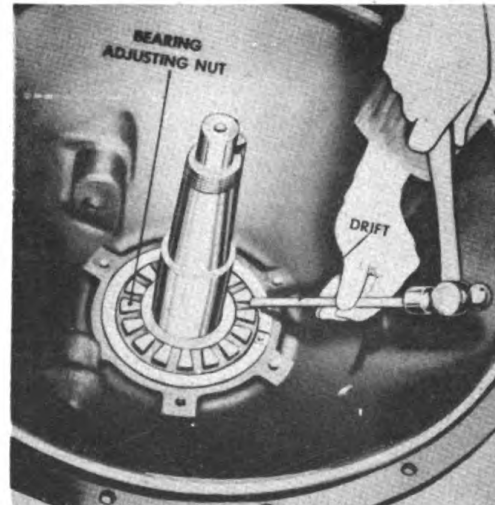

Figure 308. Removing Bearing Retainer.
D. Remove the bearing retainer from the housing using a drift and a hammer to loosen it and unscrewing it by hand the rest of the way. See Figure 308.